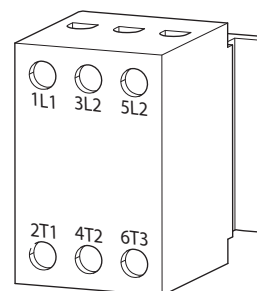

FIG. 8: Disconnect Switch Terminal Block
- Attach the ground wire to the ground stud inside the junction box (K).
- Refer to FIG. 8 and connect the wires from the power cord into terminals 2T1 and 6T3 on the disconnect switch terminal block.